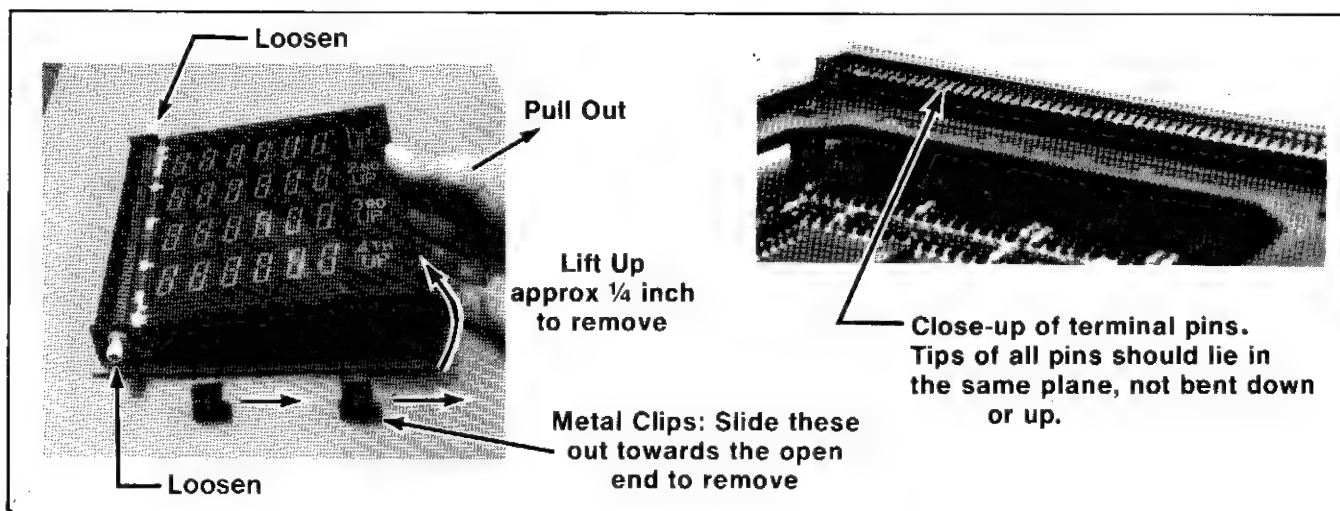

Figure 6-11 Removal of Score Panel
2. Remove the metal clips holding the score panel onto the bracket arms of J21 (refer to Figure 6-11).
3. Loosen nylon screws that position the score panel into the score panel connector (refer to Figure 6-11).
6. Next examine the condition of the terminal strips on the score panel. If the surfaces of the strips are corroded, use a pencil eraser to clean them off. Be careful, however, not to rub the eraser against any of the tiny metal ribbons touching certain strips up near the glass "seal" (refer to Figure 6-11). These ribbons must be perfectly centered over the correct pins, not halfway off.